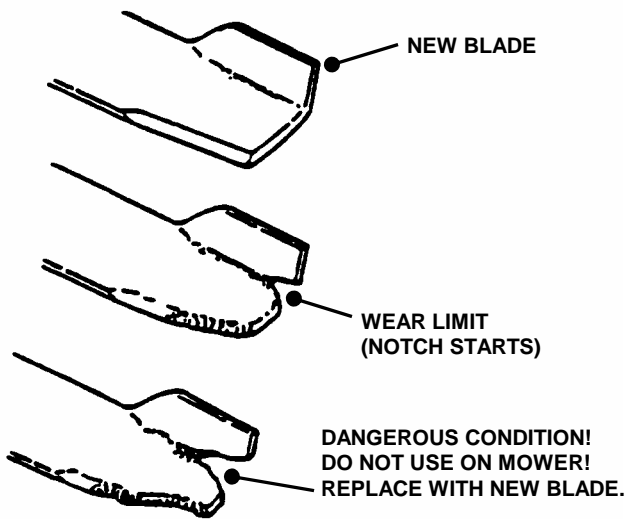

FIGURE 4.5
1. Inspect blade frequently for signs of excessive wear or damage. See Figure 4.5.
DO NOT use a cutting blade that shows signs of excessive wear or damage. Refer to Figure 4.5. Wear heavy leather gloves when handling or working around cutting blades. Blades are extremely sharp and can cause severe injury.
2. Inspect condition of blade. Refer to Figure 4.5.
5. Reinstall blade. See Figure 4.5. Torque blade mounting bolts to recommended range of 70 to 80 ft. lbs.